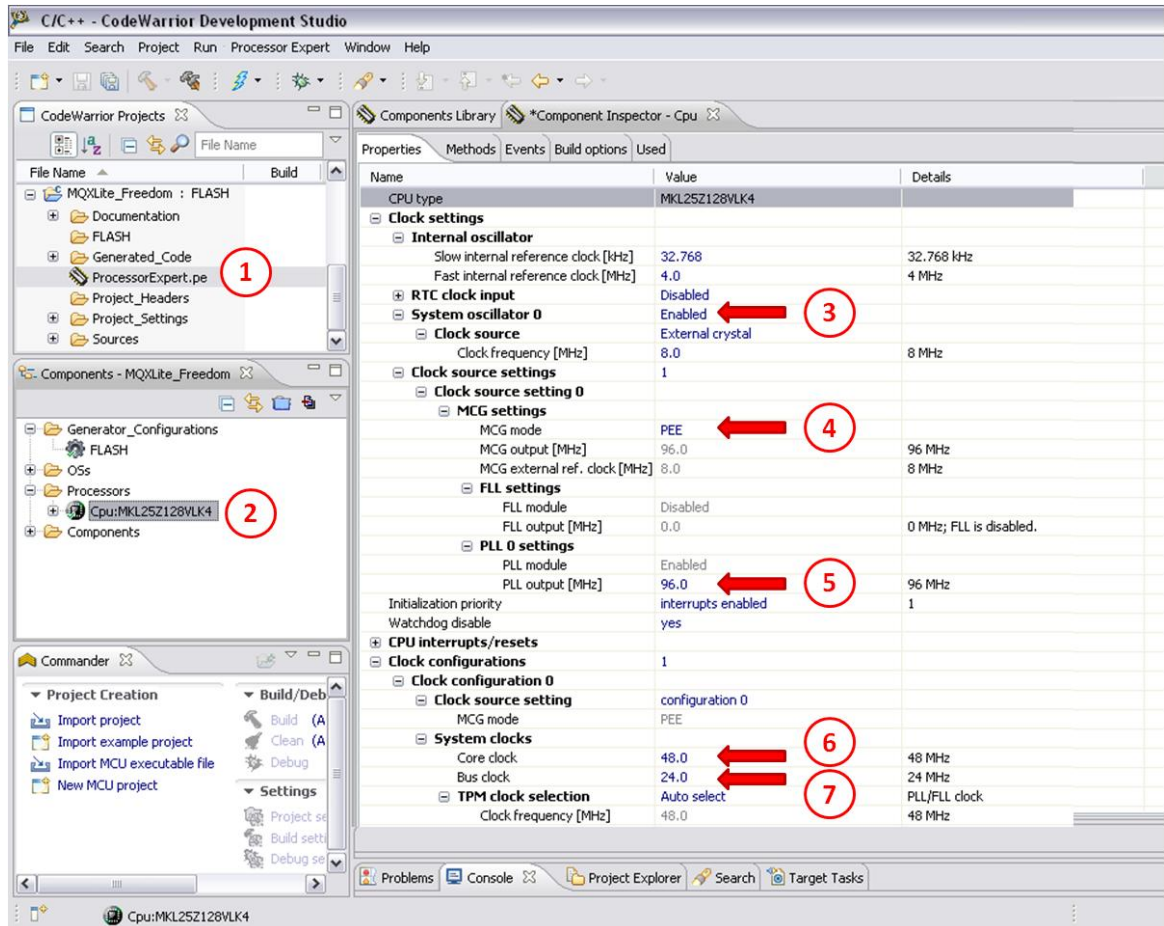

Figure 16. Clock settings and configurations
First, it is necessary to setup the right configurations for the hardware used in the Freedom – KL25Z board. Figure 16 has all the needed steps to configure the clock settings and configurations.
1. Double click in the “ProcessorExpert.pe” item under the “CodeWarrior” project window. This will update the content of the “Components” window where “Cpu: MKL25Z128VLK4” component must be selected to enable the content in the “Component Inspector,” right of the windows mentioned above. There are 5 things that need to be modified. Figure 16 shows, in detail, the options and the right values to be modified.